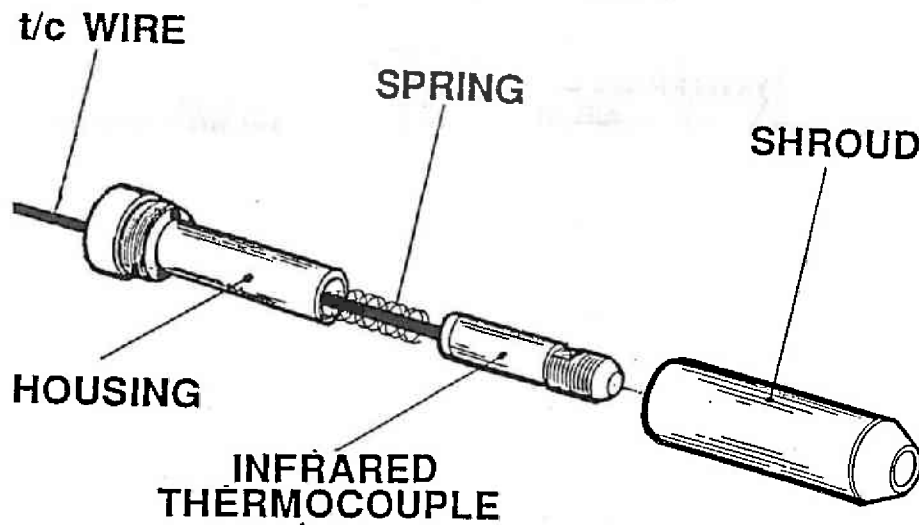

FIG.1
1. See Figure 1. Unscrew the stainless steel Shroud and remove the copper Water Coil from the Housing. (Straighten and push the copper tubing forward to remove.)
3. Slide the end of the thermocouple cable through the Housing as shown in Figure 1.
SEE FIG.1 FOR